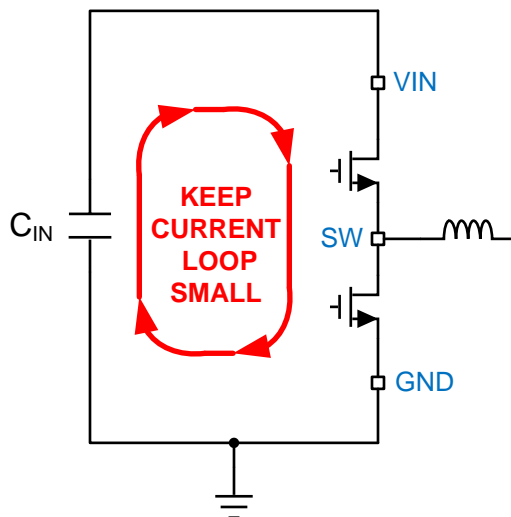
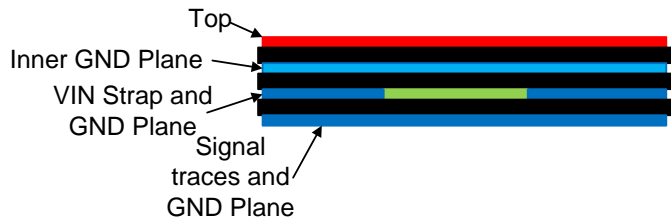

Figure 51. Current Loops with Fast Edges
Figure 53. Example Layout for VQFN Package
The PCB layout of any DC/DC converter is critical to the optimal performance of the design. Bad PCB layout can disrupt the operation of an otherwise good schematic design. Even if the converter regulates correctly, bad PCB layout can mean the difference between a robust design and one that cannot be mass produced. Furthermore, the EMI performance of the regulator is dependent on the PCB layout, to a great extent. In a buck converter the most critical PCB feature is the loop formed by the input capacitor(s) and power ground, as shown in Figure 51. This loop carries large transient currents that can cause large transient voltages when reacting with the trace inductance. These unwanted transient voltages will disrupt the proper operation of the converter. Because of this, the traces in this loop should be wide and short, and the loop area as small as possible to reduce the parasitic inductance. Figure 52 and Figure 53 show recommended layouts for the critical components of the LMR33630 .
1. **Place the input capacitor(s) as close as possible to the VIN and GND terminals.** VIN and GND pins are adjacent, simplifying the input capacitor placement. With the VQFN package there are two VIN/PGND pairs on either side of the package. This provides for a symmetrical layout and helps to minimize switching noise and EMI generation. A wide VIN plane should be used on a lower layer to connect both of the VIN pairs together to the input supply; see Figure 53.